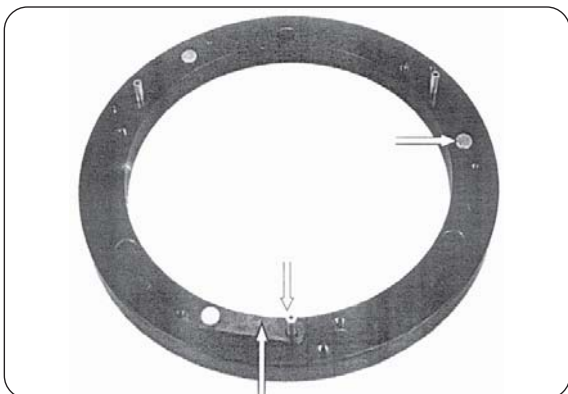

Fig. 9
4. By using alignment screw, screw it into the ring as shown (Fig.9). This is mainly to avoid dislocation all straps. The above process is for all the 3 locations.